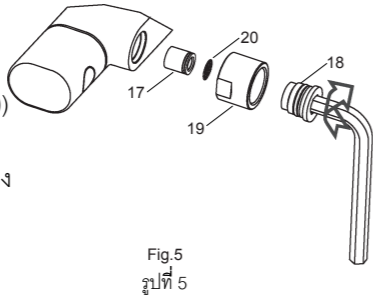

Fig.5
The filters(20) protecting the faucet device may get obstructed and reduce water flow. When this happens, unscrew the bushes(18, left thread) by a wrench (12mm) and take out the nuts(19), filters (20) and the check valves(17) after removing the faucet. Clean the filters by soaking them in warm vinegar. Reinstall them as the figure.5(**Note:** Check valves should reinstall as original orientation).